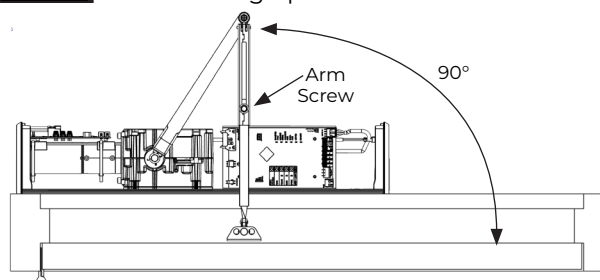

Figure 17 View: Looking up from floor
1. Using an adjustable wrench, secure the main arm to bottom pinion with the 1/4-20x 1/2" screw. (Figure 17)
2. Slide the main arm tube onto the forearm rod. (Figure 17)